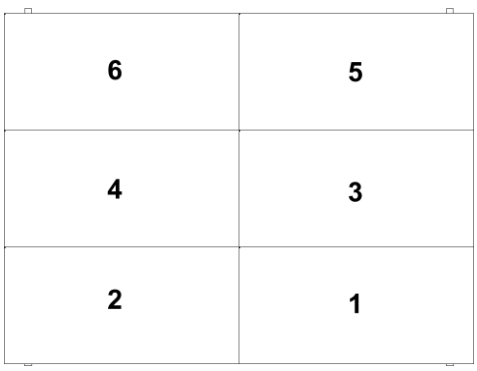

Figure 3-5 Install Lamp Board by the Specific Order
- The signal cable connection varies with different pixel pitches and signal input modes for lamp boards. The figures below show different connections for different kinds of lamp boards. Numbers on the interfaces indicate which lamp board should be connected to (lamp boards serial number refer to **Figure 3-5**).